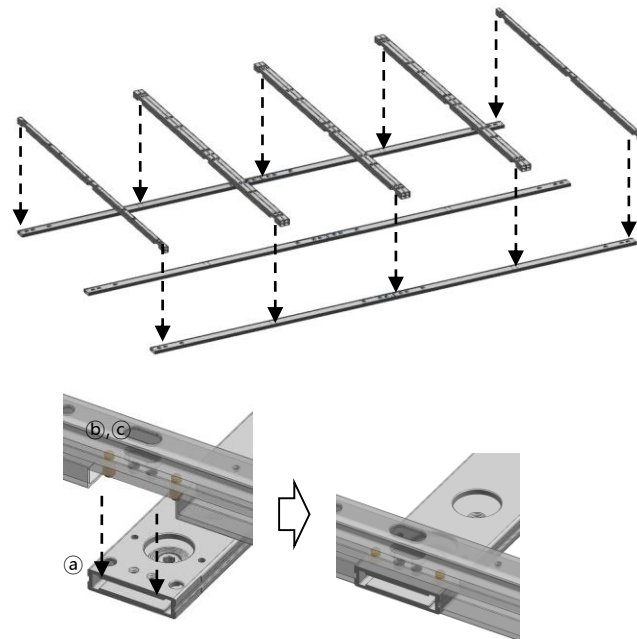
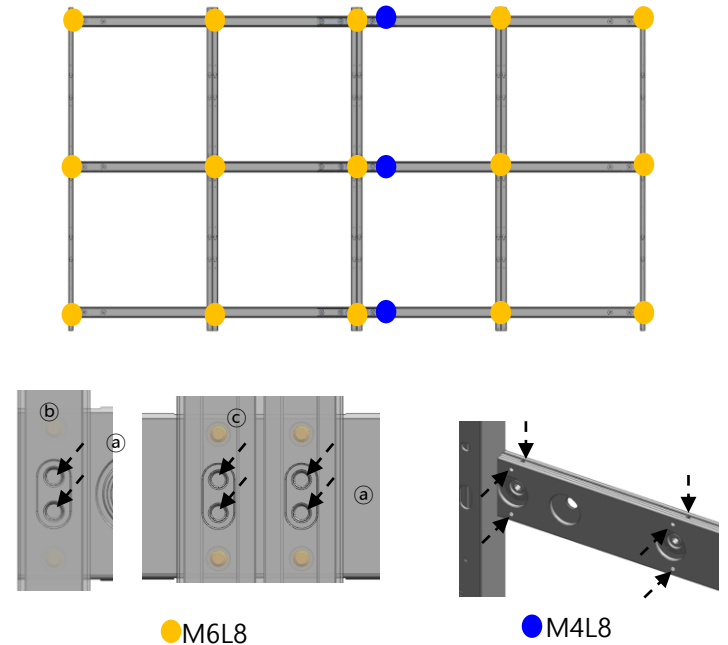

Fig.2 Insert Bracket Side/Middle과 Bracket H
Fig.3 Fix Bracket with Screw
- Second put 3 groups of Bracket H on ground. And insert Bracket Side/Middle to Bracket H. (Fig.2)
- . ② Bracket Side used at side position, ③ Bracket Middle used at middle position.
- Then fasten up the screws. (Fig.3)